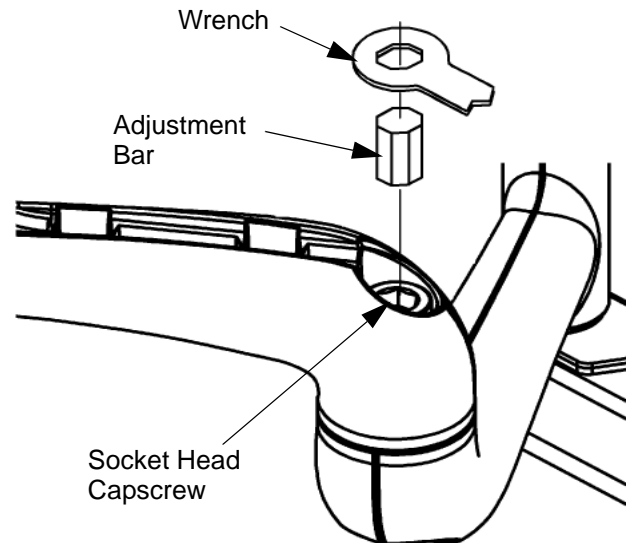

Figure 15. Pivot Arm Tension Adjustment
2. Place adjustment bar into socket head cap screw located at swing arm pivot point. (see figure 15)